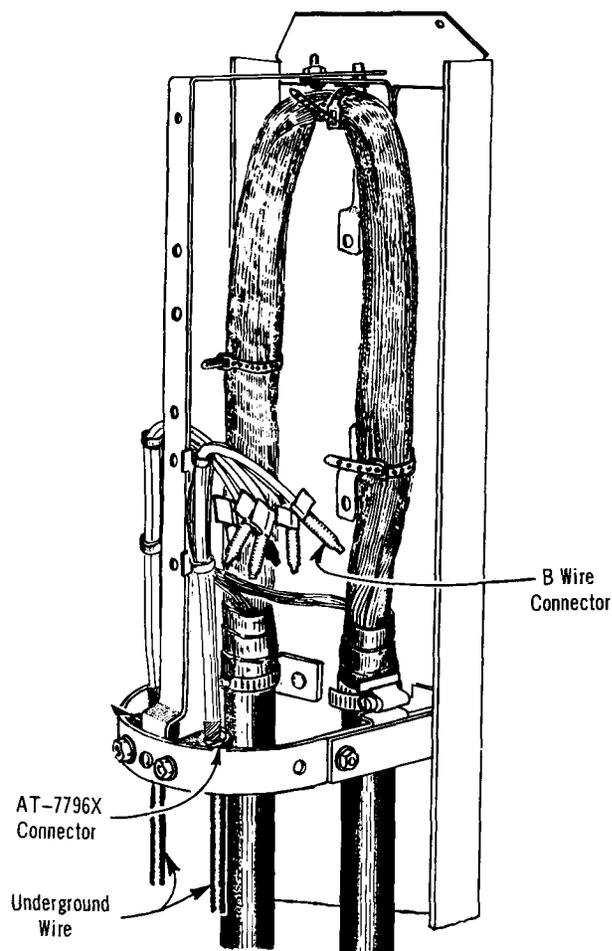

Fig. 5 — D Underground Wire in 38-Y-D and 38-Y-DB Cable Closure
2.12 Skin the insulators from the underground wire for about 1-inch and connect cable pair to wire using B Wire Connectors. After the splice is made, the end of the connector and the wire should be wrapped with a short piece of vinyl tape to insulate the bare conductor. A completed installation is shown in Fig. 5.